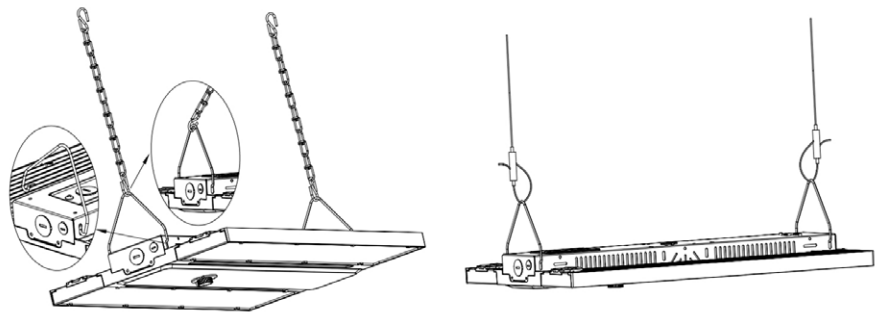

Figure 3
1. Hook up the chain (See Fig. 3)
2. Connect the chain with fixture (See Fig. 3)
3. Fix the chain on the rail, adjust the chain length as per need (See Fig. 3)